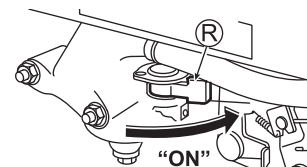

Fig. 11
2. Set the fuel cock (R) to "ON". (See Fig. 11)